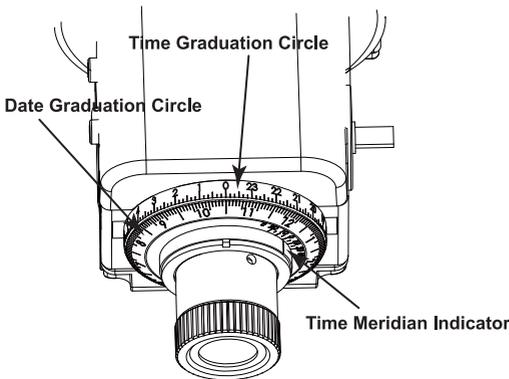

Fig 27
2. Then rotate the **Date Graduation Circle** to align Oct 31 to the 0 of the **Time Graduation Circle** and turn Eyepiece/Mounting Platform to align the **Time Meridian Indicator** to the 0 of the **Time Meridian Circle** (Fig 27). This is the date and time when the orientation of Polaris is directly below the north pole (6 o'clock).